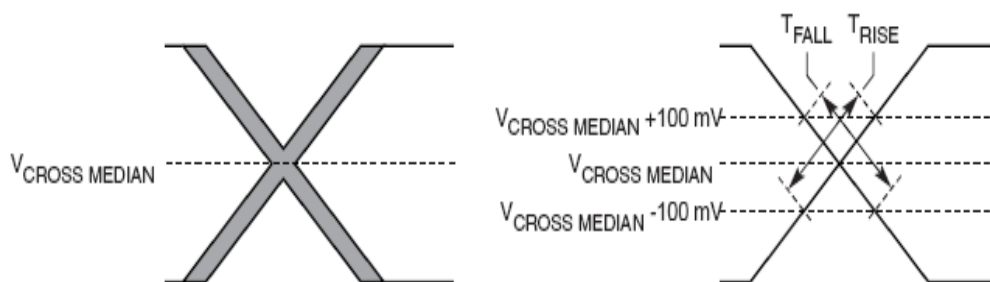

Figure 51. Single-Ended Measurement Points for Rise and Fall Time Matching
6. Matching applies to rising edge for SDn_REF_CLK and falling edge rate for SDn_REF_CLK . It is measured using a 200 mV window centered on the median cross point where SDn_REF_CLK rising meets SDn_REF_CLK falling. The median cross point is used to calculate the voltage thresholds that the oscilloscope uses for the edge rate calculations. The rise edge rate of SDn_REF_CLK should be compared to the fall edge rate of SDn_REF_CLK , the maximum allowed difference should not exceed 20% of the slowest edge rate. See Figure 51.